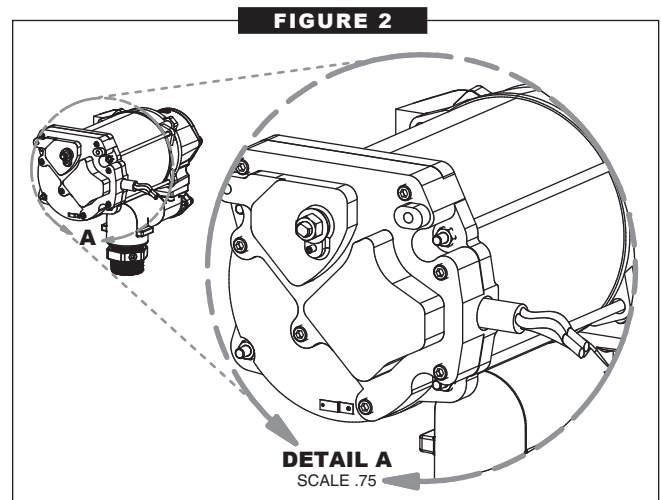

FIGURE 2
1. Remove electrical coverplate (Figure 2). Install conduit and cable from switchbox to pump electrical box. Wiring must be in accordance with Class I, Division 1 requirements in the applicable national electrical code.